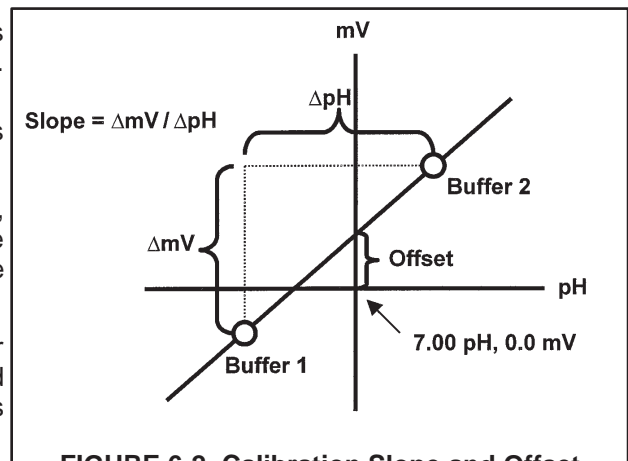

FIGURE 6-2. Calibration Slope and Offset
3. **SLOPE AND OFFSET.** Once the transmitter successfully completes the calibration, it calculates and displays the calibration slope and offset. The slope is reported as the slope at 25°C. Figure 6-2 defines the terms.